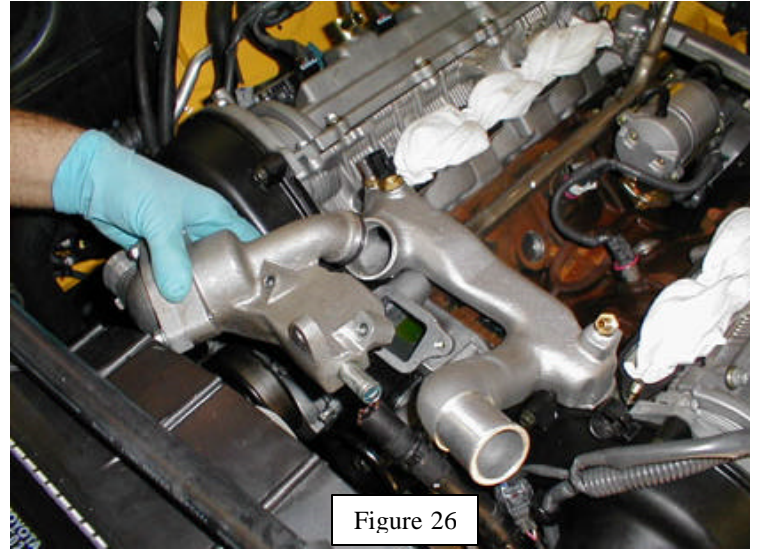

Figure 26
46. Install water inlet housing with TRD supplied bolts (Figure 26). Slide hose nipple fitting into the OE rubber hose that was installed in Step 41. Torque inlet housing bolts: 18 N-m (13 ft-lbf).